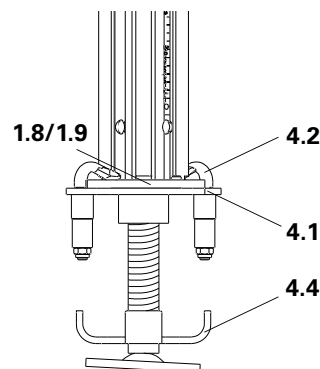

Fig. A2.13
2. Hit clamping claws (4.2) with a hammer over the prop base or head plate. Tilting Base MKF is connected to the prop. (Fig. A2.13)